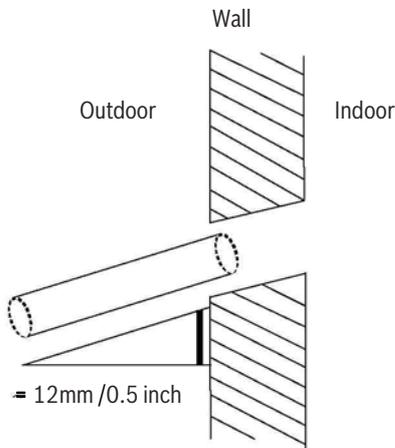

Fig. 6.5
- Using a 65-mm (2.5") core drill, drill a hole in the wall. Make sure that the hole is drilled at a slight downward angle, so that the outdoor end of the hole is lower than the indoor end by about 12mm (0.5"). This will ensure correct water drainage (See Fig. 6.5). Place the protective wall cuff in the hole. This protects the edges of the hole and will help seal it when you finish the installation process.